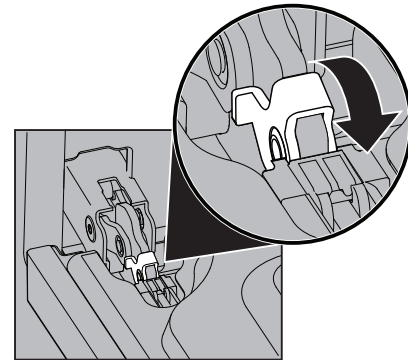

Figure 21: Door hinge lock
2. Pull up the lock located on each hinge support toward front of the oven until the lock stops. You may have to apply a little upward pressure on the lock to pull it up (Figure 21).
4. Push the door hinge locks up toward and into the oven frame on both left and right oven door hinges to the locked position (Figure 21).